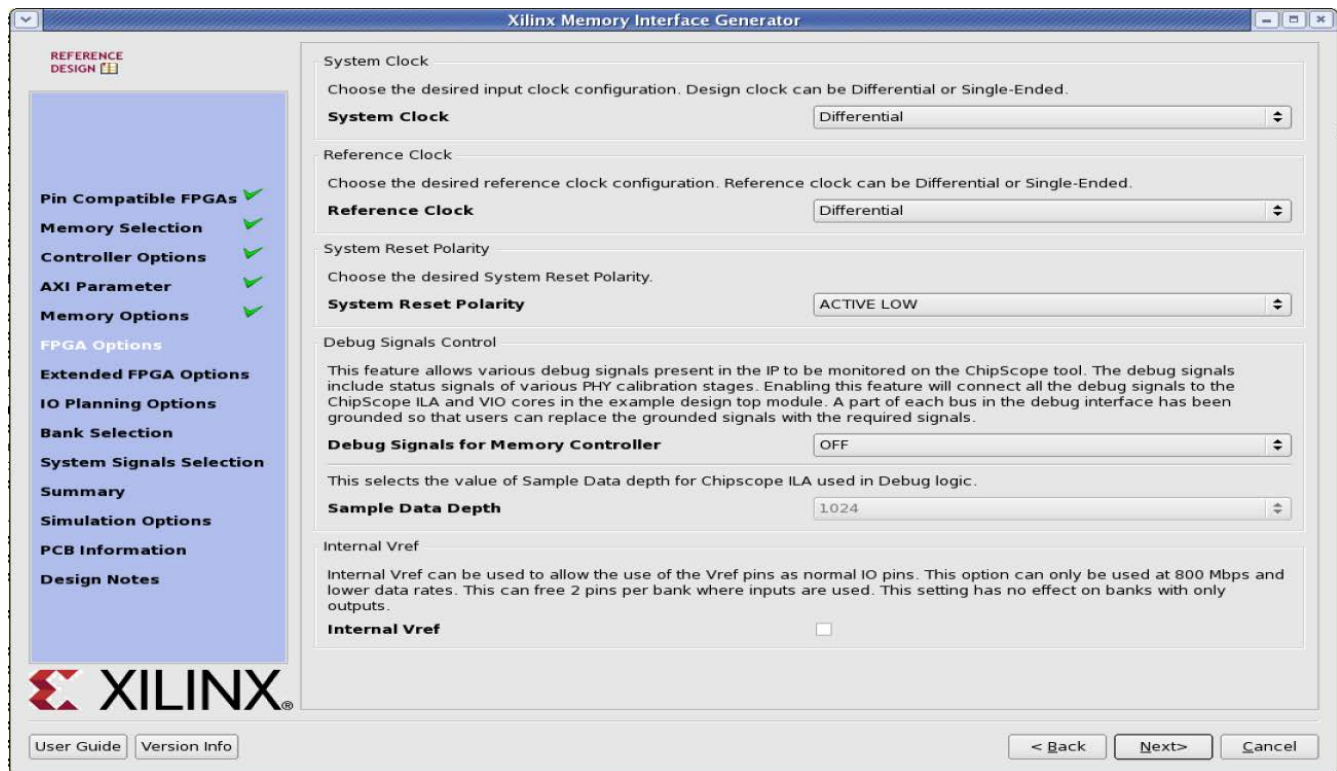

Figure 2-21: FPGA Options Page
Figure 2-21 shows the FPGA Options page.
- **sys\_clk** – This is the system clock input for the memory interface and is typically connected to a low-jitter external clock source. Either a single input or a differential pair can be selected based on the **System Clock** selection in the **FPGA Options** page (Figure 2-21). The sys\_clk input must be in the same column as the memory interface. If this pin is connected in the same banks as the memory interface, the MIG tool selects an I/O standard compatible with the interface, such as DIFF\_HSTL\_I or HSTL\_I. If sys\_clk is not connected in a memory interface bank, the MIG tool selects an appropriate standard such as LVCMOS18 or LVDS. The XDC can be modified as desired after generation.
- **clk\_ref** – This is the reference frequency input for the IDELAY control. This is a 200 MHz input. The clk\_ref input can be generated internally or connected to an external source. A single input or a differential pair can be selected based on the **System Clock** selection in the **FPGA Options** page (Figure 2-21). The I/O standard is selected in a similar way as sys\_clk above.
- **sys\_rst** – This is the system reset input that can be generated internally or driven from a pin. The MIG tool selects an appropriate I/O standard for the input such as LVCMOS18 and LVCMOS25 for HP and HR banks, respectively. Default polarity of `sys_rst` pin is active-Low. Polarity of `sys_rst` pin varies based on "System Reset Polarity" option chosen in **FPGA Options** page (Figure 2-21).